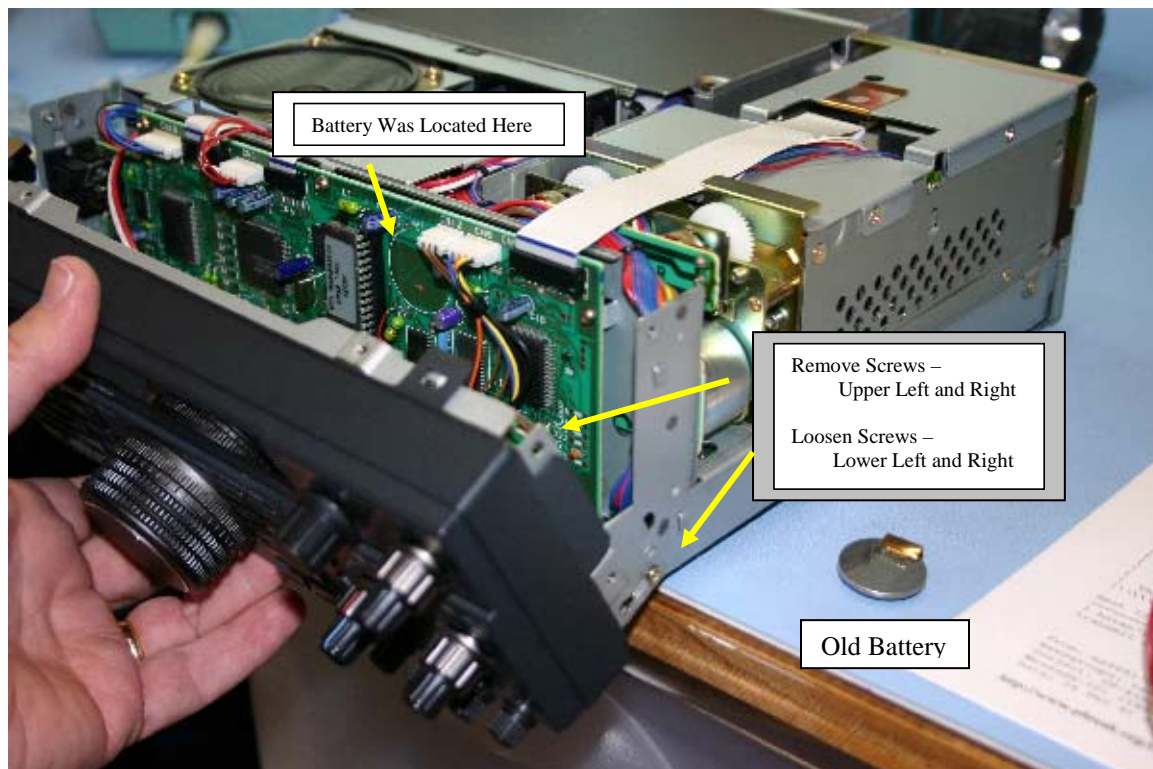

Figure 1 - Gaining Access to the Circuit Card Assembly
5. Drop the front cover down as shown in Figure 1.